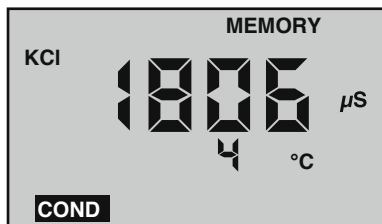

Figure 9
2. “MEMORY” will appear and the temperature display will be momentarily replaced by a number (1-100) showing the position of the record. Figure 9 shows a reading of 1806 μS stored in memory record #4.